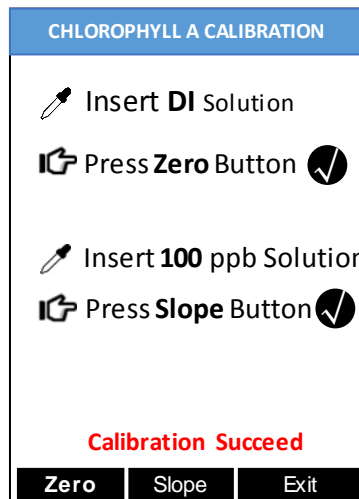

Figure 7
10. If calibration is successful, the message Calibration Succeed will appear, as in figure 7.